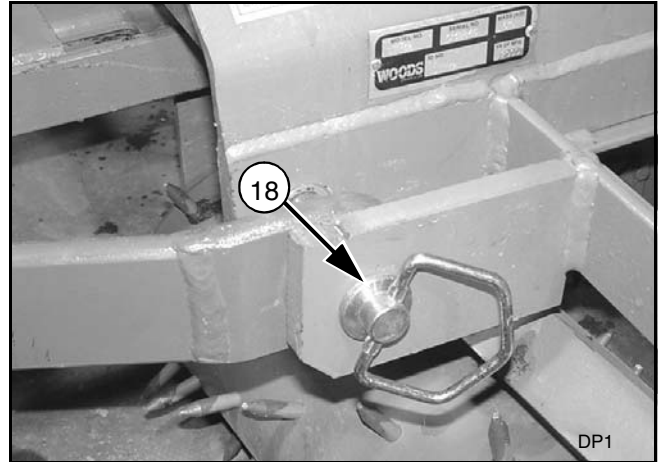

Figure 2. Lift Arms Attached to Aerator (Typical)
1. Attach the tractor's lower lift arms to the Core Aerator and secure with mounting pins (18) and klik pins. See Figure 2.